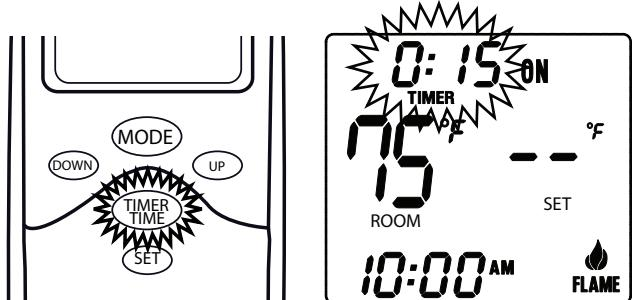

Fig. 21 Setting Timer
1. Press and release the TIMER/TIME button on the transmitter. The word TIMER will appear and 0:15 minutes will begin blinking on the screen (Fig. 21).
2. Press the UP or DOWN button on the transmitter to begin advancing through each of the countdown time options. Available countdown times are 15 minutes, 30 minutes, 45 minutes, 1 hour, 1 hour 30 minutes, 2 hours, 2 hours 30 minutes, and each additional half-hour up to nine (9) maximum hours.